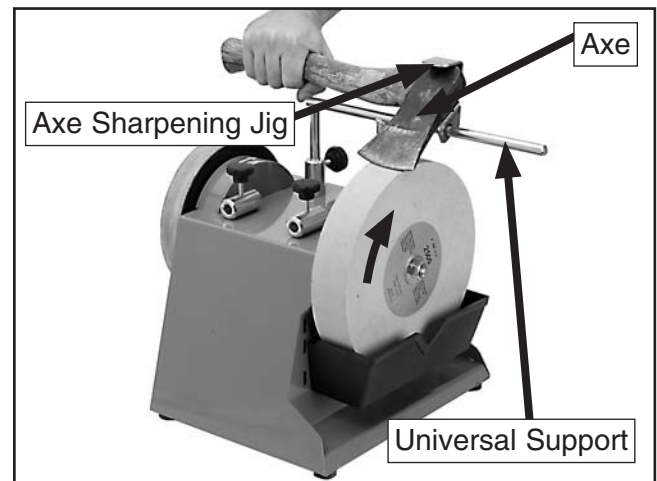

Figure 5. Axe sharpening.
3. Slide the axe sharpening jig onto the universal support and insert the axe into the jig as shown in **Figure 5**.